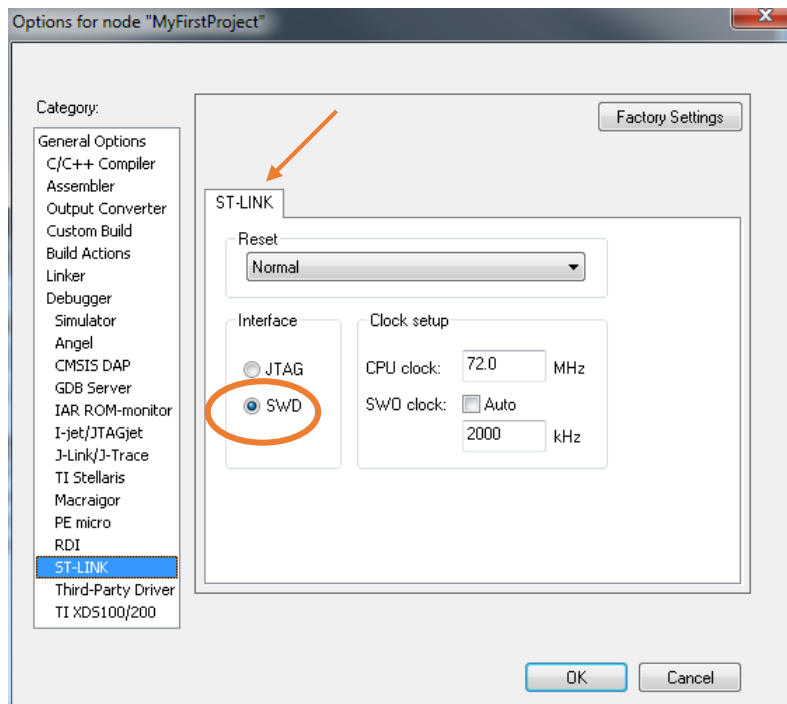

Figure 3.15: Use SWD as the preferred protocol for downloading the code
- The target microcontroller is connected using a ST-LINK and SWD protocol, Fig. 3.15.